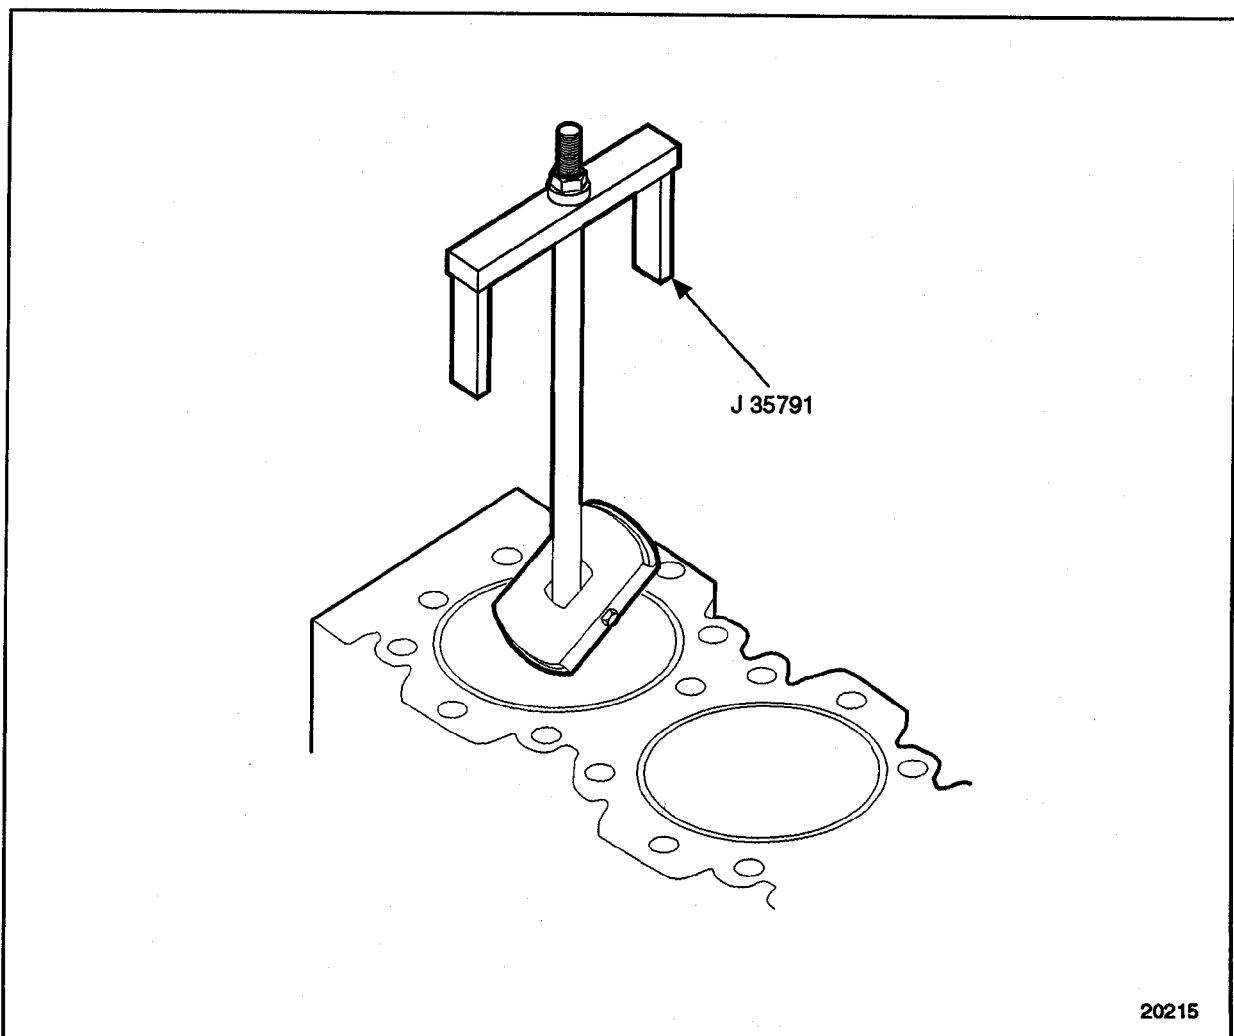

Figure 1-294 **Cylinder Liner Remover**
2. Remove the cylinder liner with cylinder liner remover, J 35791. See Figure 1-294.